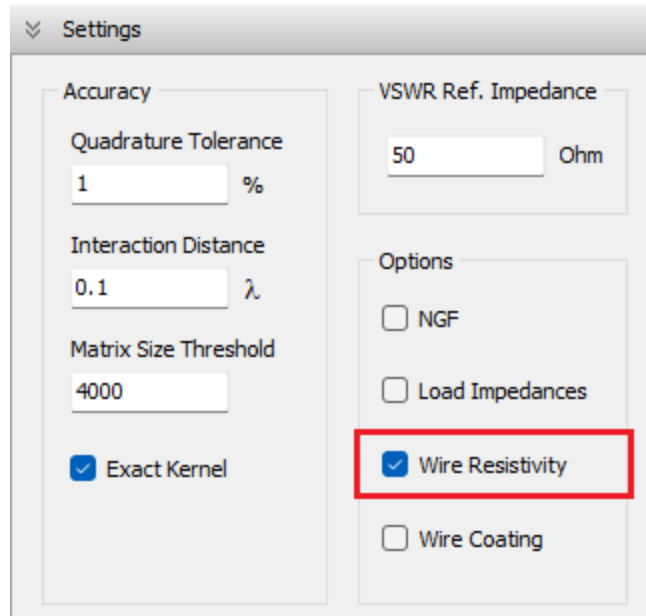

Fig. 1: Wire Resistivity option in the Settings panel of the Setup tab.
2. Locate the **Settings** panel (**Fig. 1**).